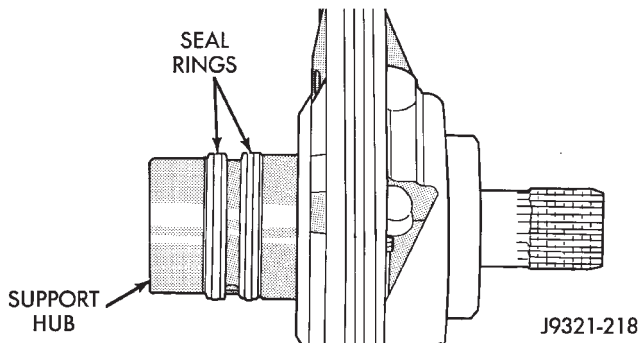

Fig. 131 Hub Seal Ring Position
(6) Install new thrust washer on hub of reaction shaft support. Lubricate washer with transmission fluid or petroleum jelly.
(7) If reaction shaft seal rings are being replaced, install new seal rings on support hub (Fig. 131). Lubricate seal rings with transmission fluid or petroleum jelly after installation. Squeeze each ring until ring ends are securely hooked together.